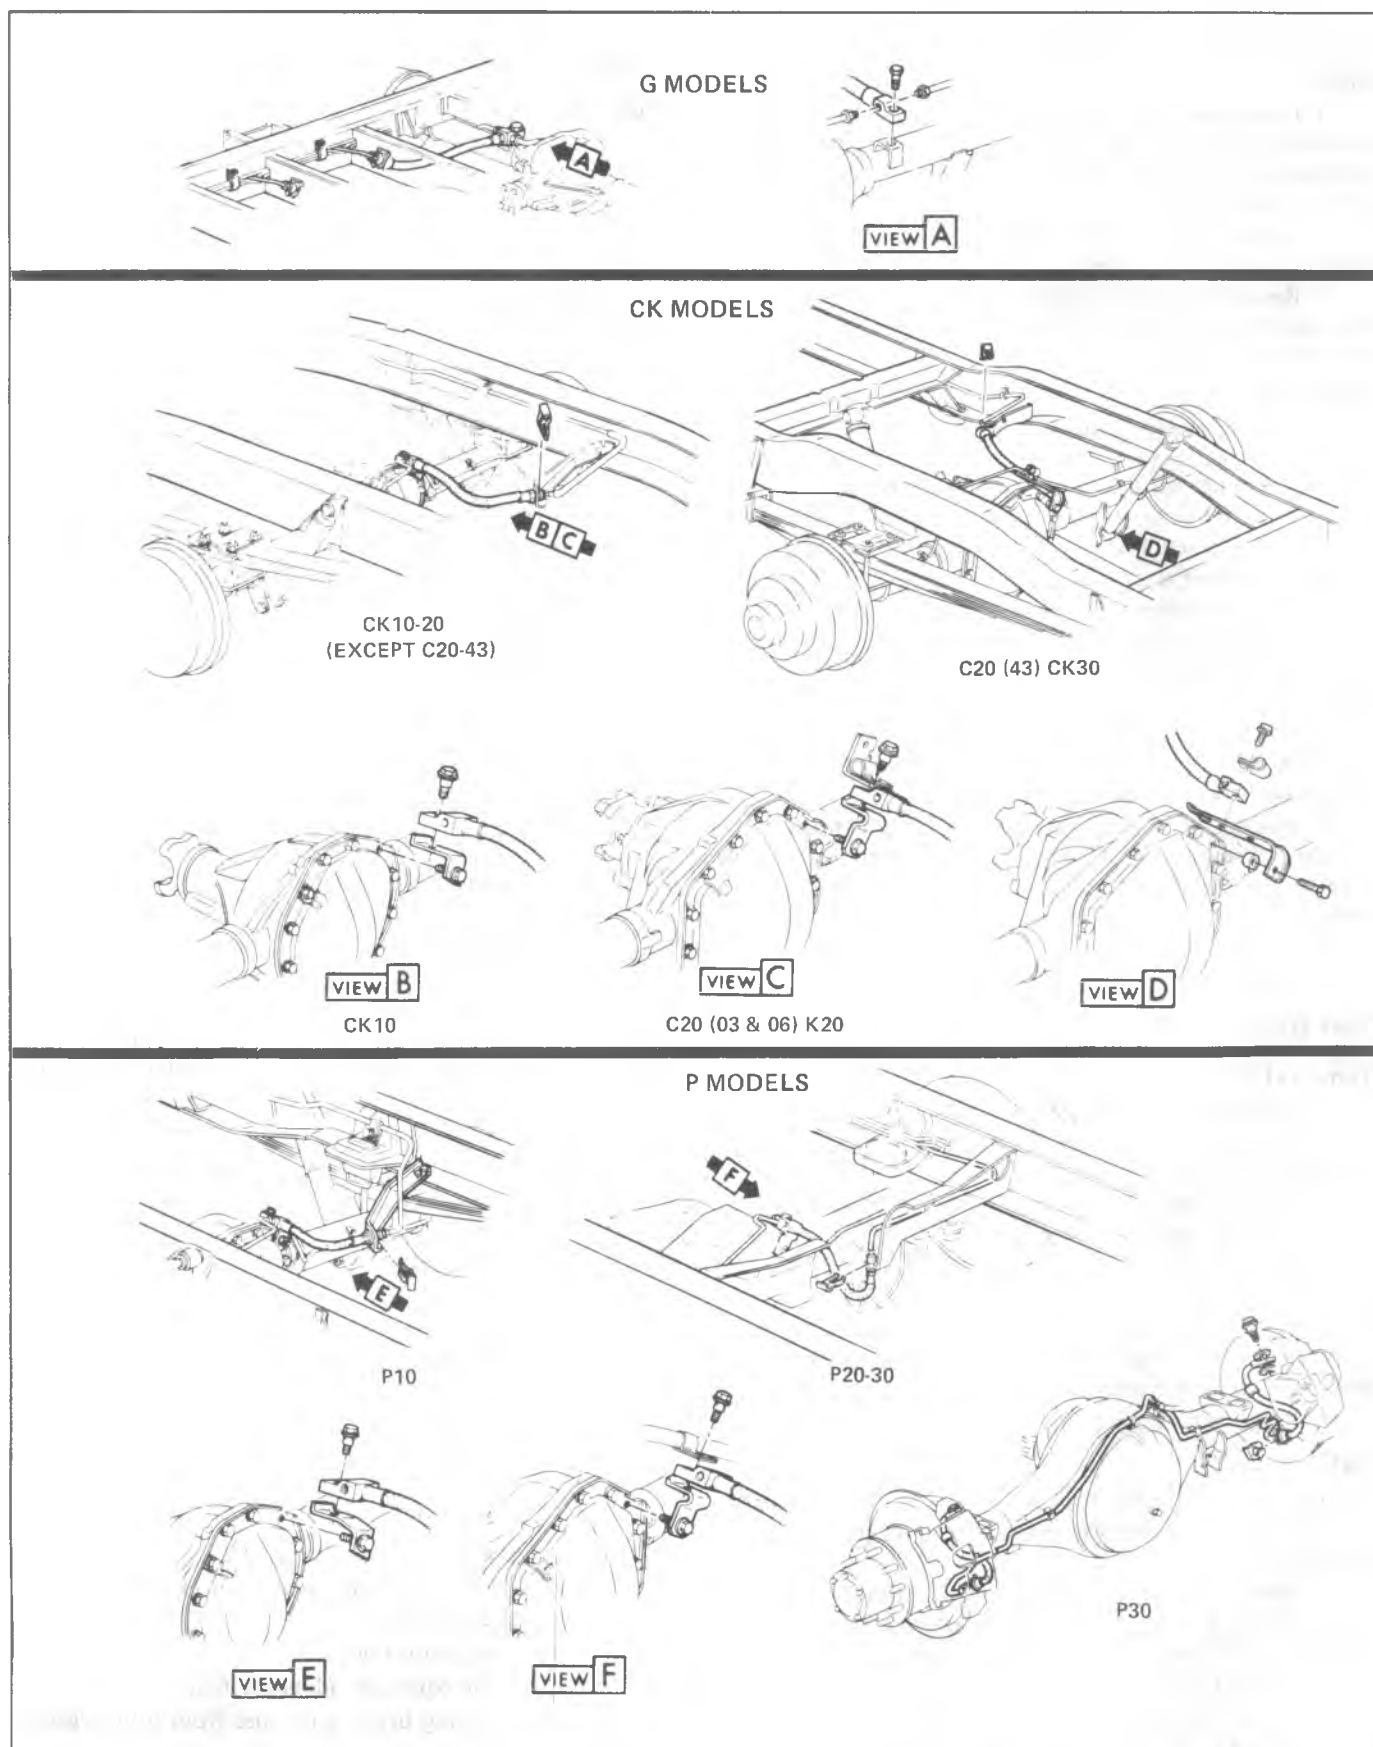

Fig. 5-5--Typical Rear Hose Fittings
3. Remove "U" clip and take female fitting out of bracket (fig. 5-5).